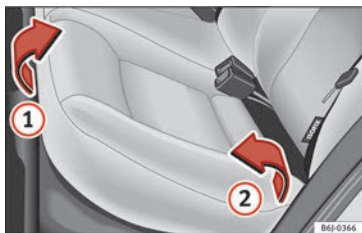
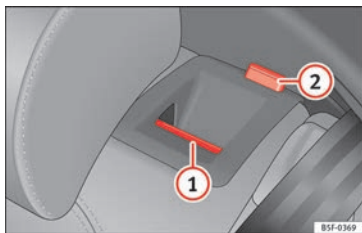

Fig. 153 Folding up the rear seat cushion.
Fig. 154 On the rear seat backrest: unlock button ①; red mark ②.
- Pull the front edge of the seat cushion » Fig. 153 ① upwards in the direction of the arrow.
- Lift the cushion ② forwards in the direction of the arrow.
- Press the unlock button » Fig. 154 ① forwards and at the same time fold the backrest down. The rear seat backrest is not engaged when the red marking of the button ② is visible.